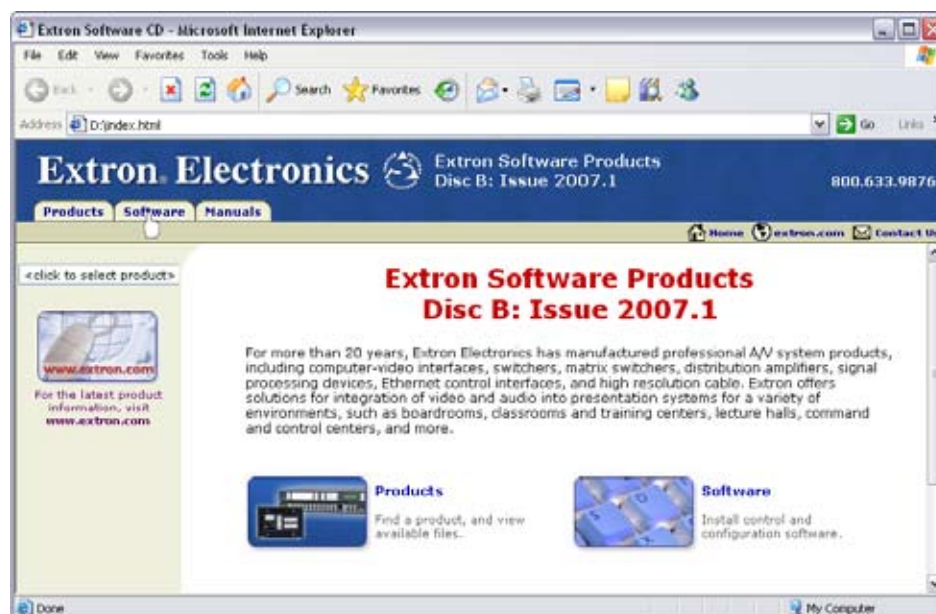

Figure 5-1 — Software CD window
The Extron software CD window appears (figure 5-1).
2. Click the Software tab (figure 5-1).